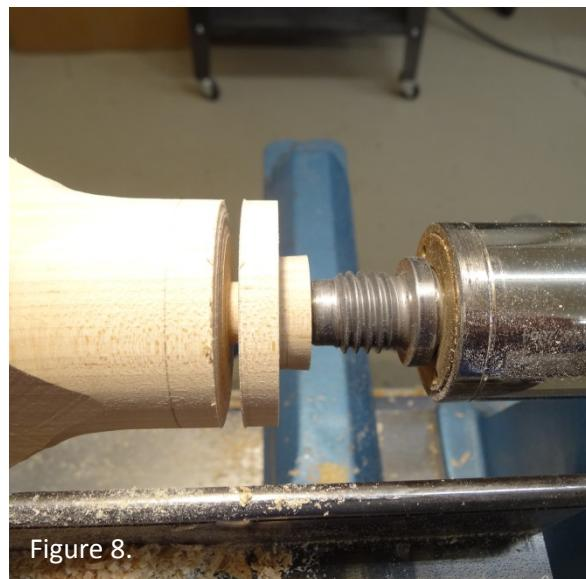

Figure 8.
- Chuck a hardwood turning blank and turn it round to a 2" diameter. Drill a small hole slightly more than 1" deep down the center. Turn a tenon 1" in diameter $\frac{1}{4}$ " long on the end. Part off the piece at $\frac{1}{2}$ " so you have a $\frac{1}{2}$ " high "hat" with a $\frac{1}{4}$ " thick 2" diameter "brim" and a $\frac{1}{4}$ " high, 1" diameter "crown" with a hole through the center. See Figure 8. Chuck by the 1" tenon and flatten the 2" face. **This is the pendant mount.**